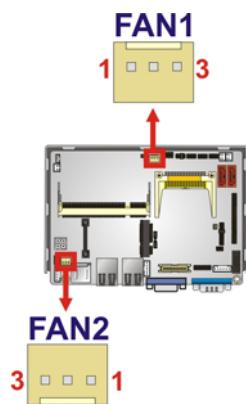

Figure 3-7: Fan Connector Locations
**CN Location:** See Figure 3-7